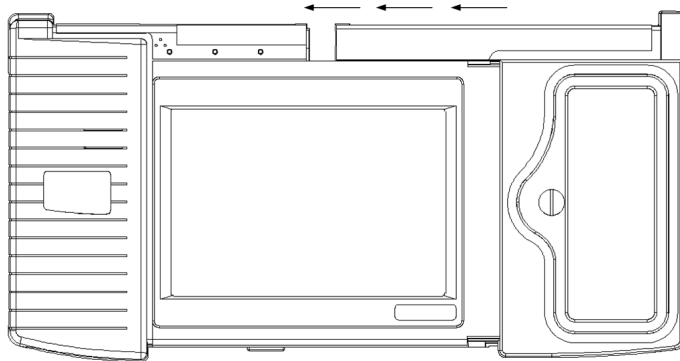

Figure 10 UIM and application module connection
- 7 Slide the application module into the UIM, keeping the two modules parallel at all times (see Figure 10).